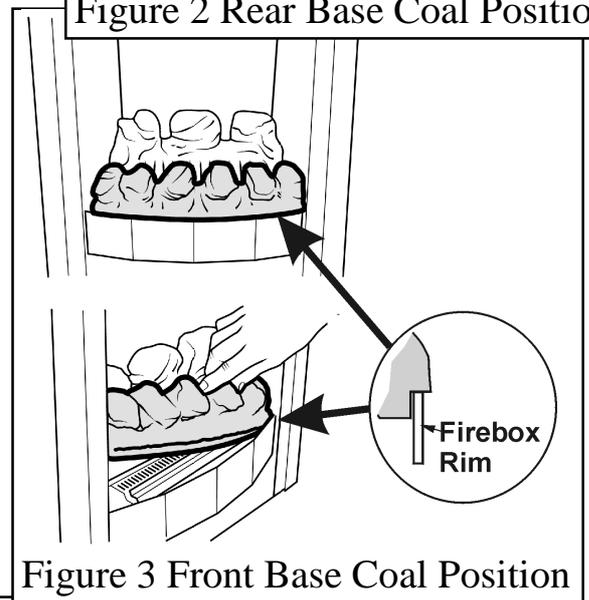

Figure 3 Front Base Coal Position
2. Place the front base coal in the firebox with its bottom front locating over the front rim of the firebox. Pull the coal forward so that it locates immediately behind the front rim of the firebox. See figure 3.